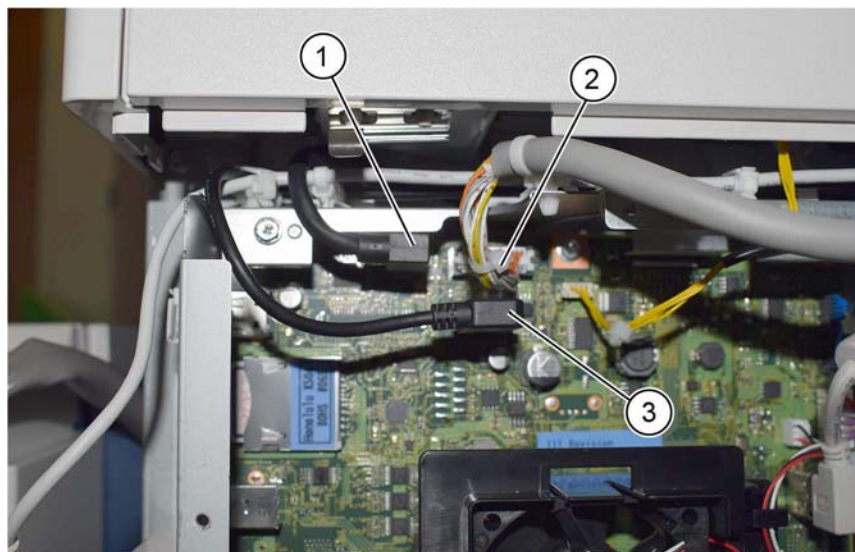

Figure 6 Cables
9. Disconnect the USB, DADF I/F and UI cables, **Figure 6:**
- a. Disconnect the USB cable (1).
- b. Disconnect the DADF I/F cable (2). **(C7030F only).**
- c. Disconnect the UI cable (3).